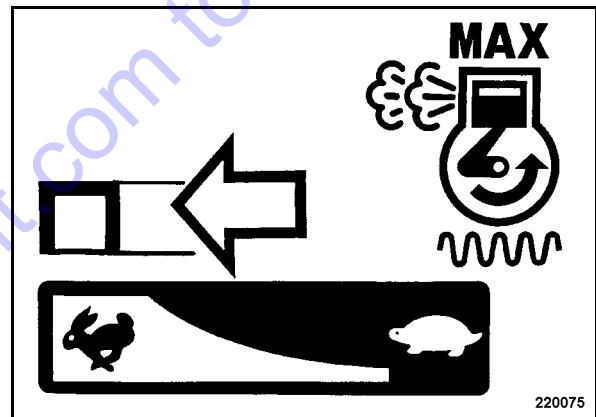

Fig. 26
- Shift the throttle lever (Fig. 26) in direction of arrow to full load position.